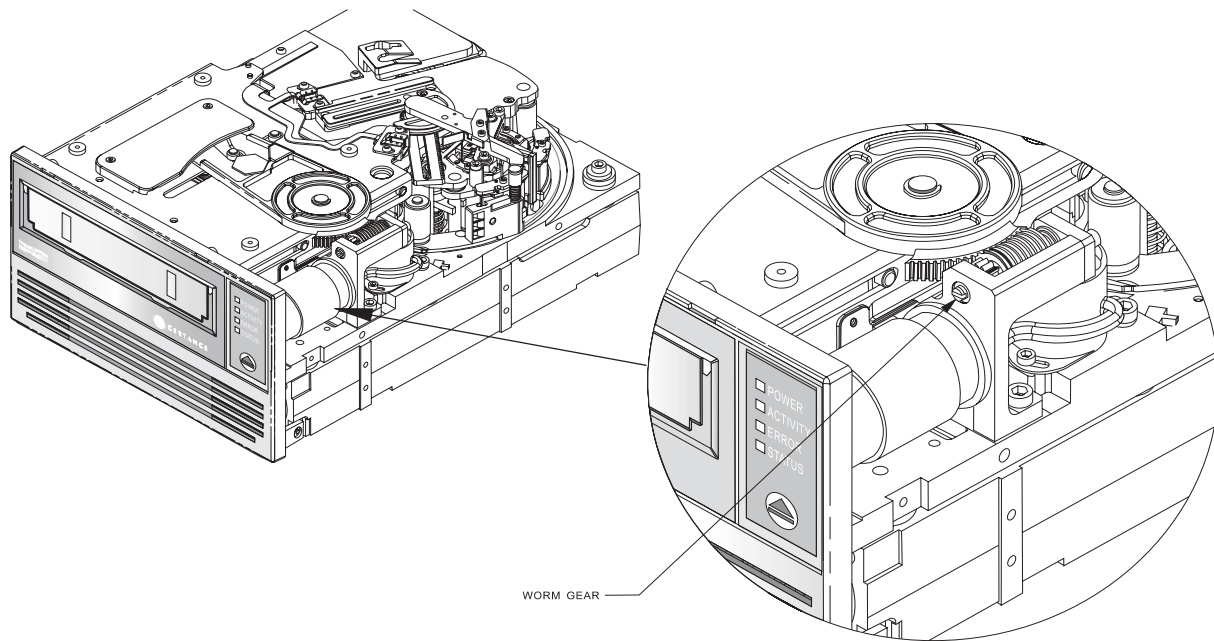

Figure 22. LTO-1 and LTO-2 Drive Worm Gear
2. Use a flat-blade screwdriver to turn the worm gear counter clockwise (to the left). Figure 22 on page 78 shows the location of the worm gear. This will gradually raise the cartridge elevator and cause the cartridge to slide partially out of the drive.